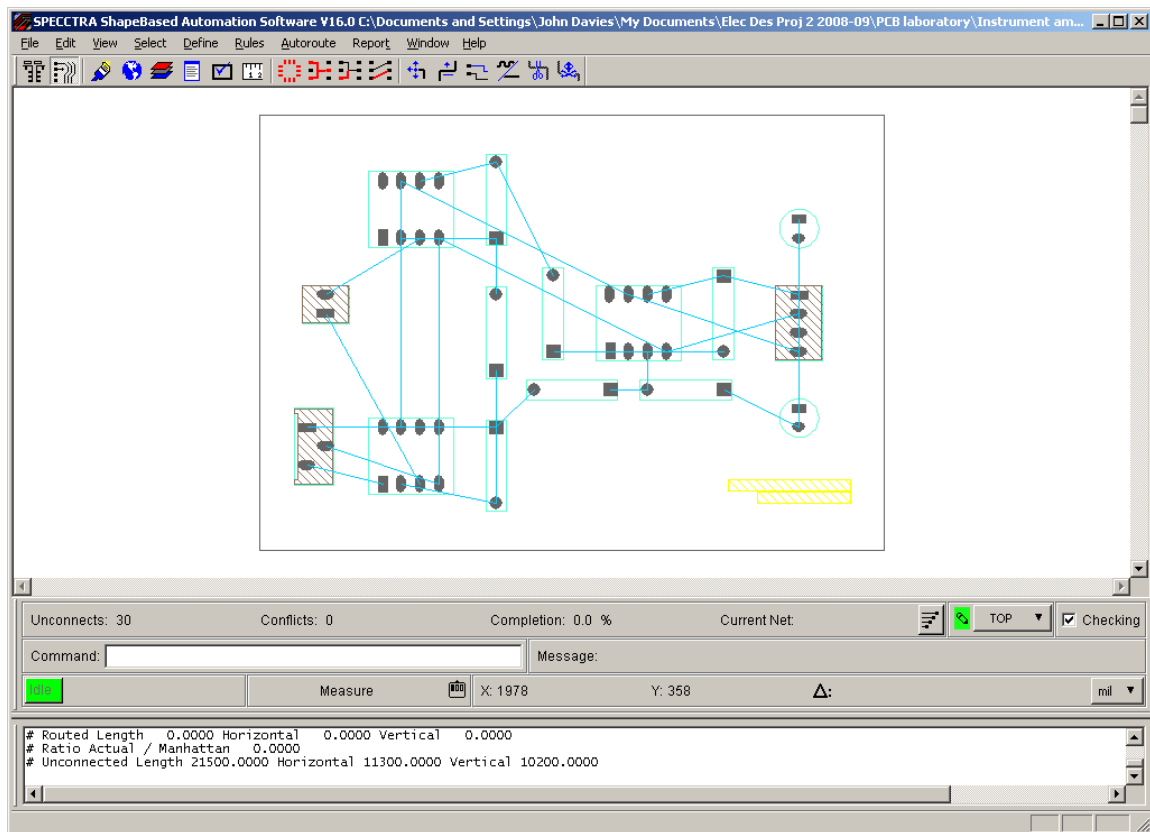

Figure 15. Screenshot of SPECCTRA, ready to route the instrumentation amplifier. I have changed the background of the window to white for a clearer printout.
Click Start Allegro PCB Router to dismiss the box. SPECCTRA will now start and you should now see your components joined by the ratsnest within the outline of the route keepin as in figure 15. Some of the components have shaded footprints, which I'll explain later.
- The Molex connectors (J1 and J2) and the trimmer (R8) have tracks only to the bottom of their pins. This is why the via is needed near R8. There are no tracks to the top because the symbols for these components have *route keepouts* on the top, which forbid the router from running tracks there. The footprints have diagonal shading in SPECCTRA to show this, visible in figure 15 on page 33.